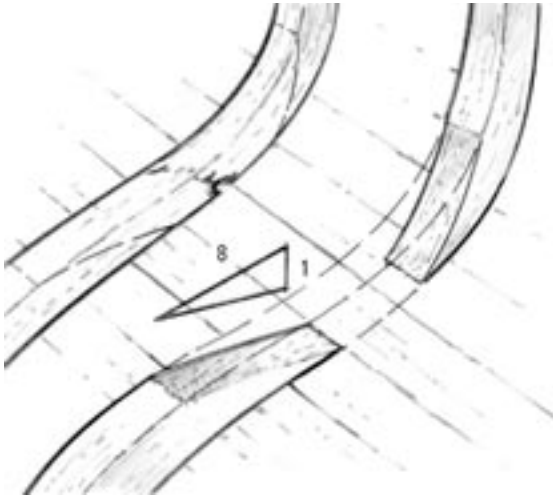

Figure 5-4 Cut out all of the damaged area, leaving at least an 8-to-1 bevel on the ends of the damaged frame.
1. Cut out the damaged section of the existing frame. Trim the exposed ends to a minimum 8-to-1 scarf angle (*Figure 5-4*). The longer the scarf angle, the stronger the joint. When repairing hardwood or highly loaded frames, use a longer (12-to-1) scarf angle.